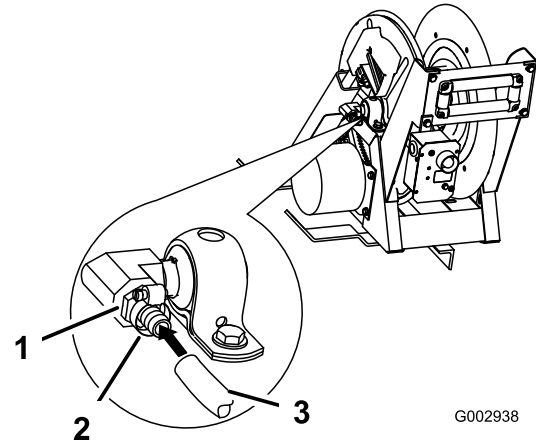

Figure 20
20. Wrap Teflon tape counterclockwise around the threads of a barbed fitting (3/4 inch) and install it into the inlet port on the side of the hose reel (Figure 20).
22. Connect the hose assembly to the fitting on the hose reel (Figure 20) and secure both ends with 2 small hose clamps.